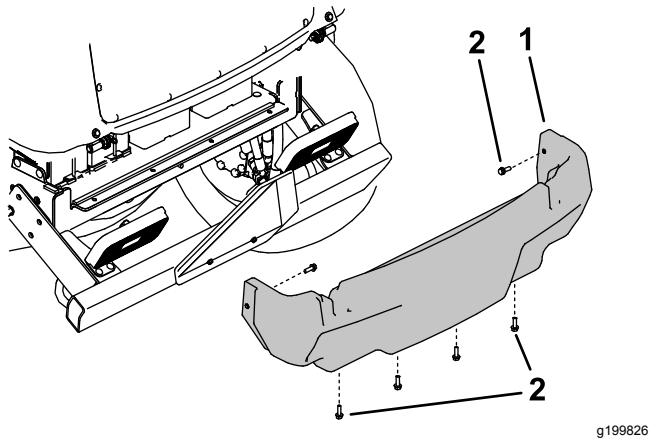

Figure 102
5. Remove the 6 flange screws securing rear shroud to the frame and remove the rear shroud (Figure 102).
4. Install the rear shroud (Figure 102).